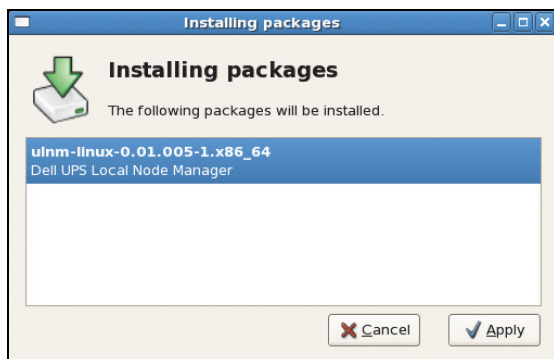

Figure 11. Linux RPM Graphical Package
- 2 The system prompts for the root password. Enter the root password. The system launches a graphical front end, such as Red Hat's package Installer, as shown in Figure 11.